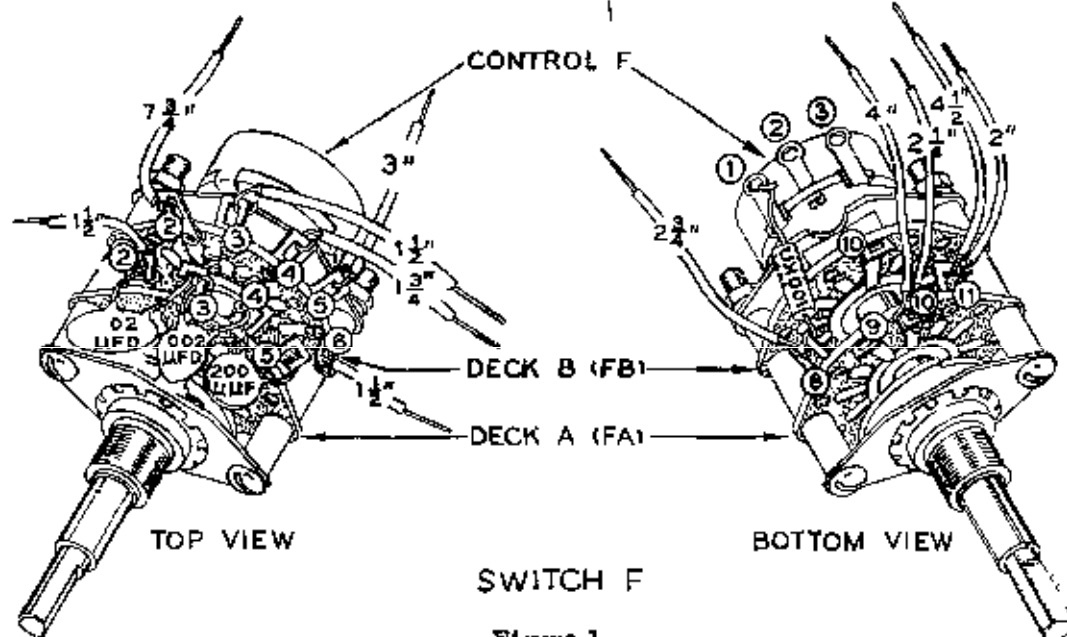

Figure 1
Refer to Figure 1 for the following steps.
- (✓) C10. Connect a 200  $\mu$ f capacitor between lugs FA4 (NS) and FA5 (S-1). Keep the body of the capacitor flat against the switch as shown in Figure 1.
- (✓) C9. Connect a .002  $\mu$ f capacitor between lugs FA4 (S-2) and FA3 (NS). Keep this capacitor close to the switch.
- (✓) C8. Connect a .02  $\mu$ f capacitor between lugs FA3 (S-2) and FA2 (NS). Again, keep the capacitor close to the switch.